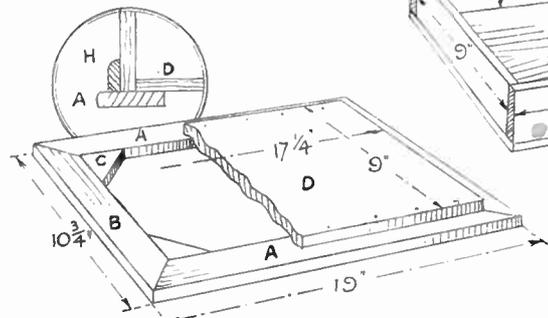
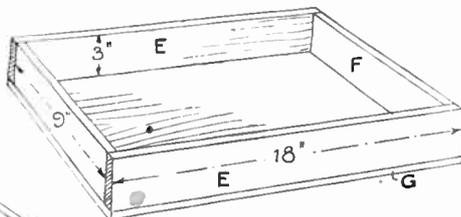
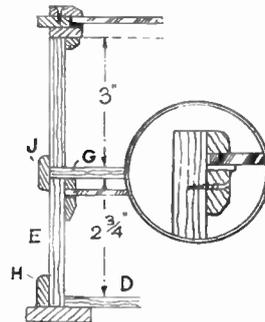

Fig. 2 - Details of floor and base construction
Fig. 3 - Framework of the case
Fig. 4 - Section at end
The base of the lower case should first be set out and made, and in Fig. 2 this is shown with also a section of the floor screwed to it. Cut two pieces as (A) and two pieces as (B) all to length shown, by $1\frac{1}{2}$ ins. wide by $\frac{3}{8}$ in. thick. Cut the mitres to 40 degrees on all the ends using a set
As both cases are identical in size, four rails 18 ins. by 3 ins., and four rails 9 ins. by 3 ins. and all $\frac{3}{8}$ in. thick may be cut and framed together as shown in Fig. 3. This illustration shows the upper case with floor (G) attached and flush with the sides and ends all round. The lower case, however, will not of course have a floor this being already supplied as (D) in Fig. 2.
To strengthen the base, as well as to add to the appearance, a member as (H) in the enlarged diagram in Fig. 2 is added all round and mitred at the corners. The four pieces are $\frac{3}{4}$ in. by $\frac{1}{4}$ in. in section and are glued in place. This member is seen again in the cross section through one side at Fig. 4.
the enlarged view in Fig. 4. On these fillets will be glued strips of washleather or felt to form a bedding for the sheet of glass, the size of which should be taken direct from the made-up case.
form of an open frame. Each side of it is made up of three strips of $\frac{1}{4}$ in. thick wood glued or screwed together. A detailed corner view of the frame is shown in Fig. 4, with an enlarged sectional detail in the circle.
To the inside edges of the glass framing, fillets $\frac{3}{8}$ in. by $\frac{1}{4}$ in. with chamfered edges will be attached to hold the frame properly and rigidly in place, see the enlarged detail Fig. 4. Glass of about 21oz. will be used for both top and lower case, the top glass again being bedded on either felt or washleather as shown.
This completes the making of the show cases, which can be lined and finished as previously suggested. To hold the cases together a fillet strip (J) is put round at the junction as seen in Fig. 4. The strips are $\frac{3}{8}$ in. wide and $\frac{1}{4}$ in. thick and they are mitred at the angles of the top case and glued and pinned to it.